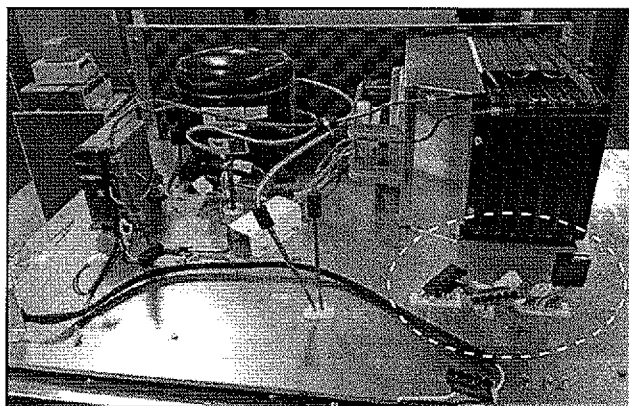

FIGURE 11
13. After disconnecting all the connectors and removal of the HV box assembly, the top of the product will look as shown in *Figure 11*.
NOTE: Following the removal of the HV box assembly, the circled connections should be present on the unit. See *Figure 11*.